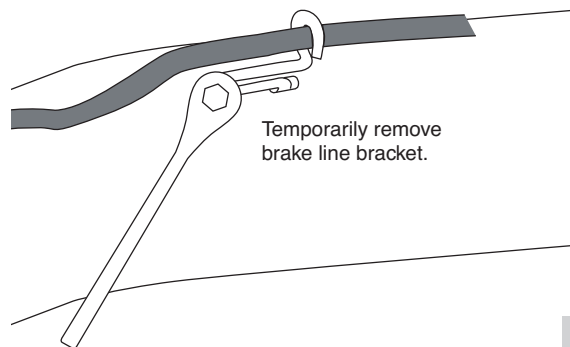

fig. 5
2. On the Driver Side only, unbolt the emergency brake cable. Remove the nut and cable bracket and pull the cable loose from the frame (Figure 5). Hold onto fasteners so that the cable bracket can be reattached later.